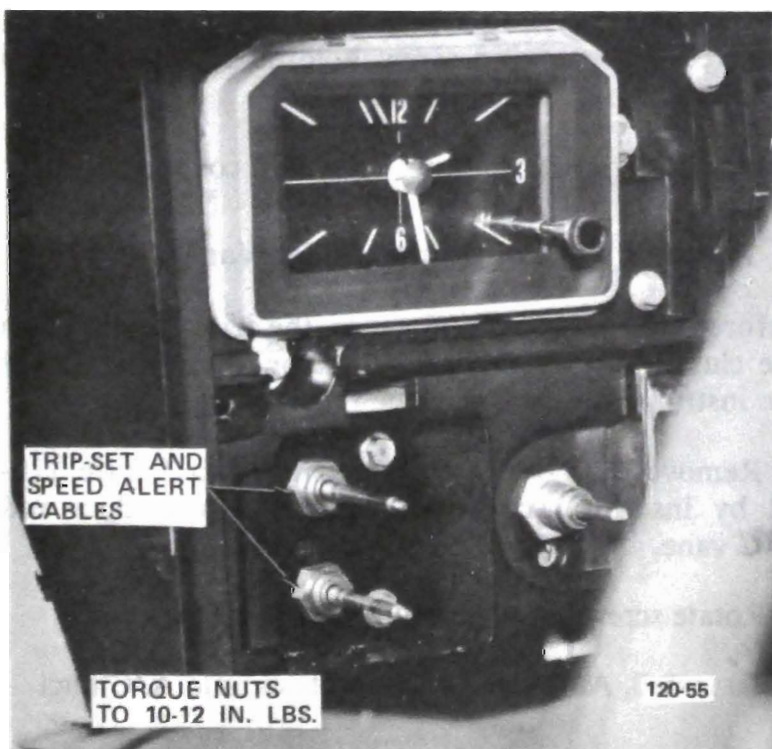

Figure 120-50 Speed-Alert and Trip-Set Cables
3. Remove cable retaining nut on right panel. See Figure 120-50.